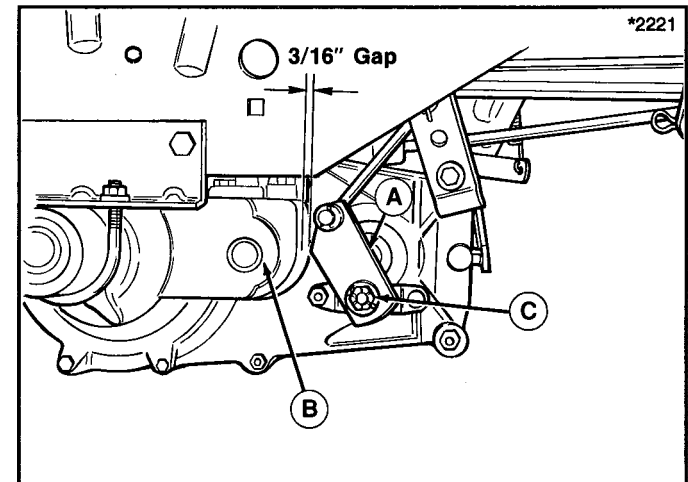

Figure 35. Brake Adjustment (Hydro Model)
1. With clutch/brake pedal released, rotate the brake cam (A, figure 35) forward until it stops. There should be $3/16$ " gap between transaxle housing (B) and rear point of brake cam.
2. If adjustment is required, remove cotter pin and turn adjusting nut (C) until proper $3/16$ " clearance is achieved. Turning the nut in will decrease clearance and turning the nut out will increase clearance. Reinstall cotter pin after adjustment.